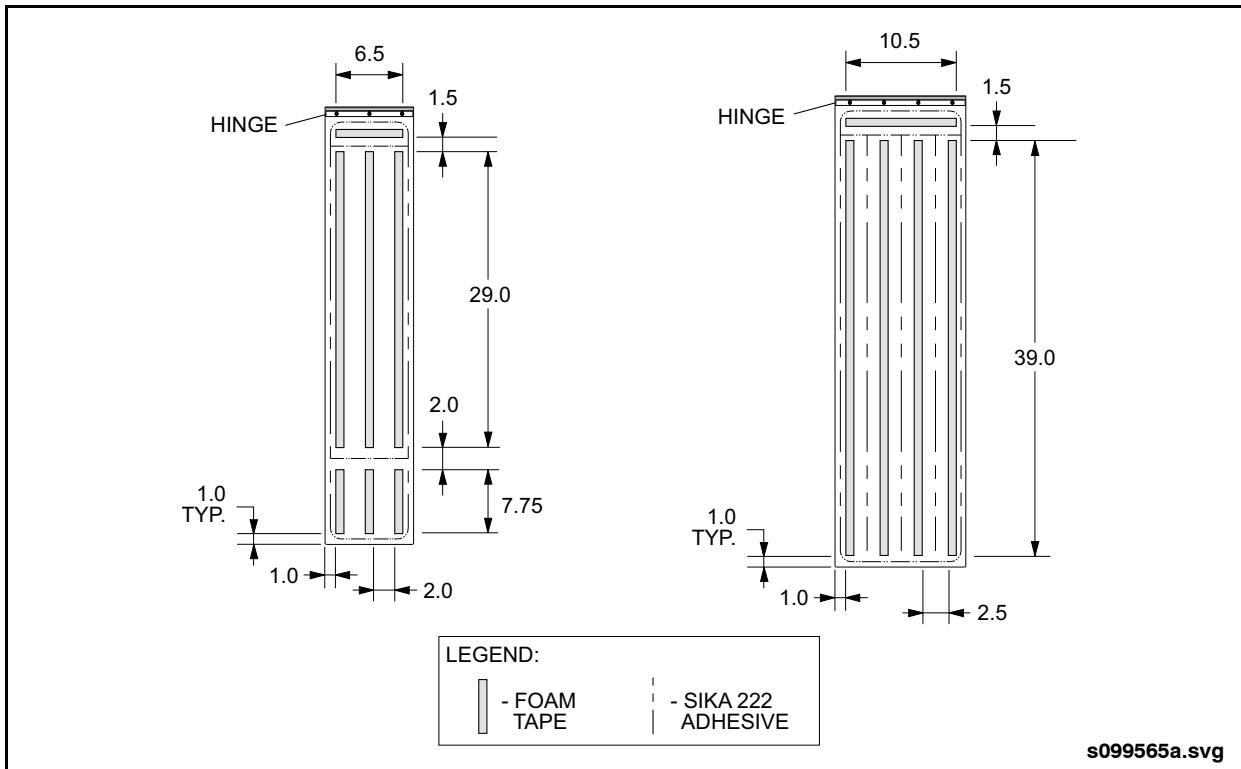

Fig. 14-25: Infill Glazing Seal Installation
3. Wipe the glazing bonding area dry using a clean, dry lint-free paper towel. Allow glazing to dry for three (3) minutes.
4. Install foam tape to back of replacement glazing approximately one inch from glazing edge. See "Fig. 14-25: Infill Glazing Seal Installation" on page 29.